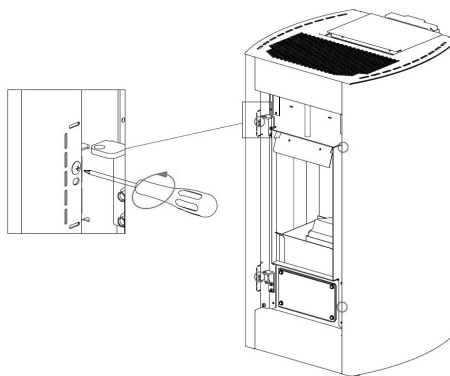
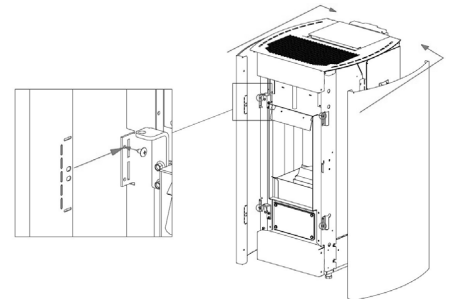

Fig. 57 - Remove screws
Fig. 58 - Remove side panels
- Loosen the 4 front screws and remove the side panels (see **Fig. 57** and **Fig. 58**).